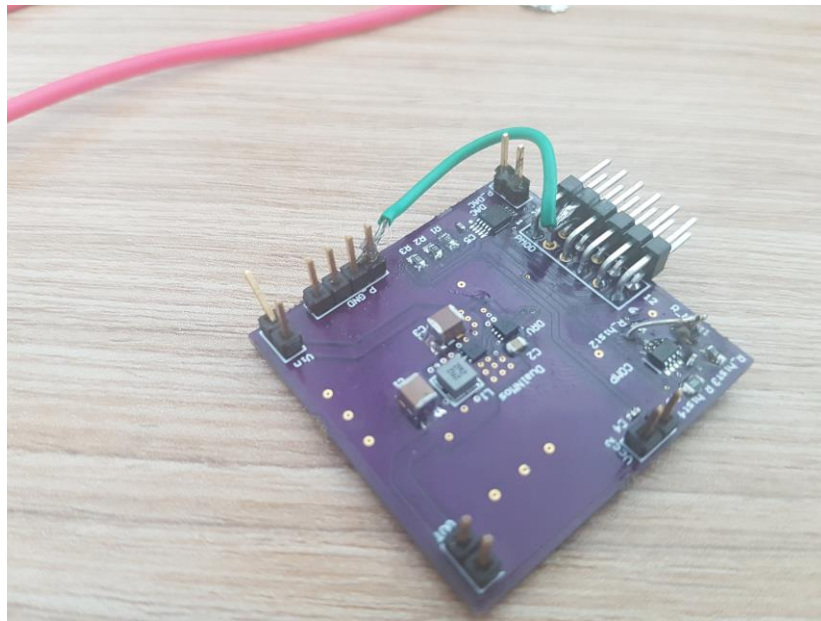

Figure 1
1. The GND problem is very easy to fix: just solder a wire between the PMOD ground PIN and the 1 x 4 board ground pin header (as Figure 1 shows)